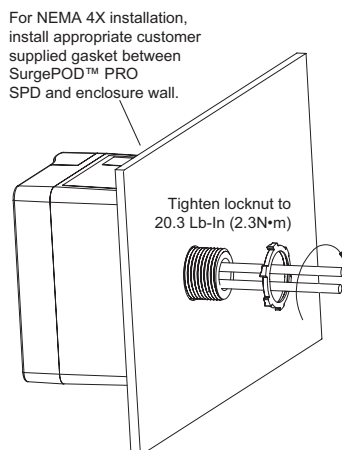

Figure 1.
4. Select a location on the panelboard that accommodates mounting the SPD and allows the leads to reach their intended connection points. Be sure the SPD unit can be positioned so that the LED status indicator(s) is visible. A location that permits the shortest lead lengths (but not less than six (6) inches) is preferred.
6. Remove the locknut from the unit and insert leads through the panelboard wall to the interior being careful not to damage the conductor insulation. (For NEMA 4X installations, use appropriate gaskets or sealing means to retain the NEMA 4X rating on the installation - see Figure 1.) Reinstall locknut and tighten to specified torque.